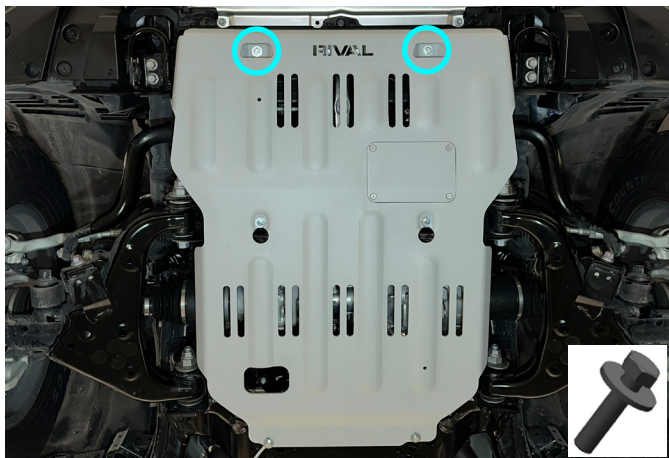

Fig. 3
3. Slide rear part of engine skid plate (item 1) under previously installed bolts M8. After that fix front part using bolts M8x30 and washers M8 (item B, C) as shown in fig. 3.